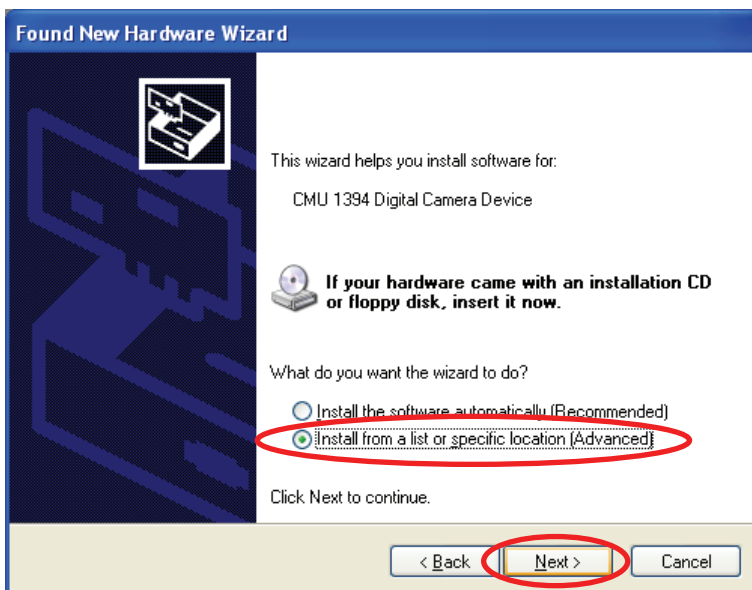

Fig. 2.12: Windows XP driver installation - step 1
- ➡ Click on "Next" to confirm this dialog (see Fig. 2.12).